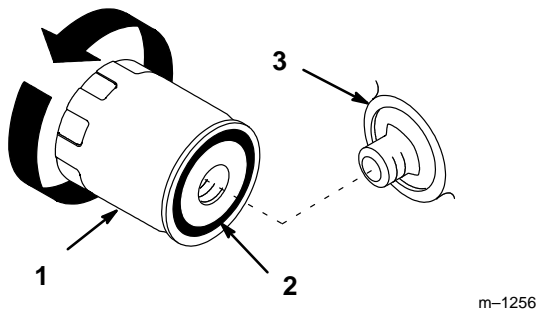

Figure 11
2. Remove the old filter and wipe the filter adapter (Fig. 11) gasket surface.
4. Apply a thin coat of new oil to the rubber gasket on the replacement filter (Fig. 11).
5. Install the replacement oil filter to the filter adapter. Turn the oil filter clockwise until the rubber gasket contacts the filter adapter, then tighten the filter an additional 1/2 turn (Fig. 11).